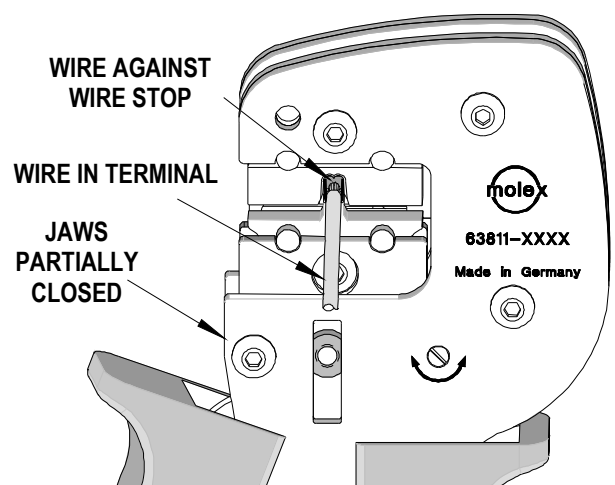

Figure 5
8. Gently touch the wire stop with the end of the wire. See Figure 5 and 6.